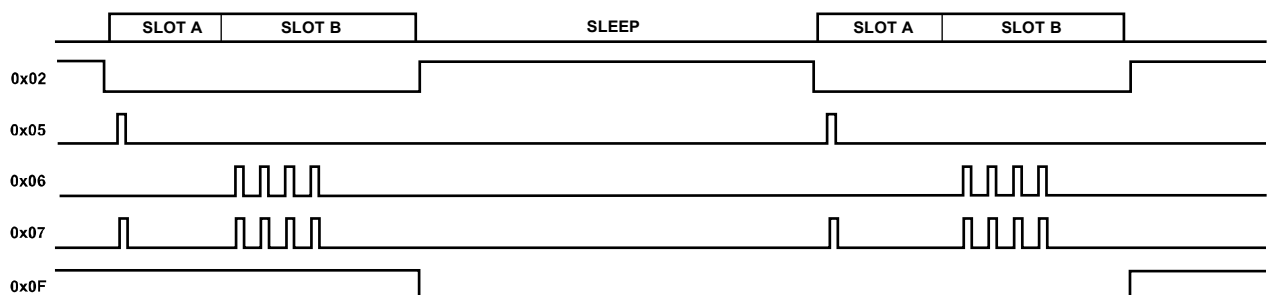
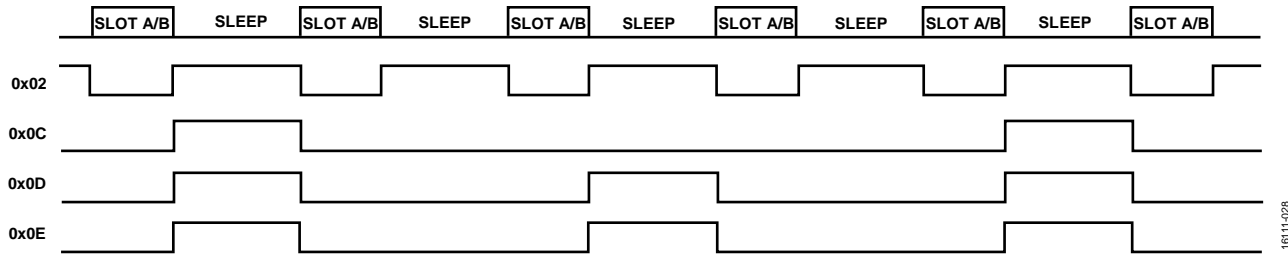

Figure 27. Optional Timing Signals Available on GPIOx—Register 0x0B, Bits[12:8] or Bits[4:0] = 0x02, 0x05, 0x06, 0x07, and 0x0F
Figure 28. Optional Timing Signals Available on GPIOx—Register 0x0B, Bits[12:8] or Bits[4:0] = 0x02, 0x0C, 0x0D, and 0x0E
The various available timing signals are controlled by the settings in Register 0x0B, Bits[12:8] of this register control the timing signals available on GPIO1, and Bits[4:0] control the timing signals available on GPIO0. All of the timing signals described in this data sheet are available on either (or both) of the GPIO0 and GPIO1 pins. Timing diagrams are shown in Figure 27 and Figure 28. The time slot settings used to generate the timing diagrams are described in Table 17.
**Table 17. ADPD188GG Settings Used for the Timing Diagrams Shown in Figure 27 and Figure 28**